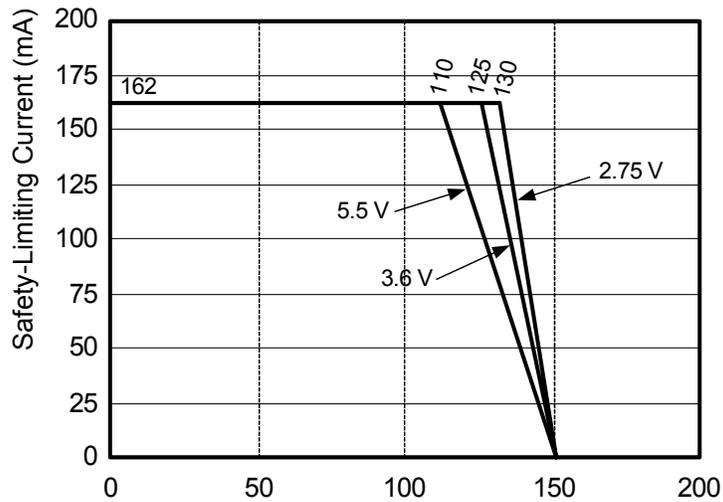

Figure 3. Thermal Derating Curve, Dependence of Safety Limiting Values with Case Temperature per DIN EN 60747-5-2
***Note:** Maximum value allowed in the event of a failure; also see the thermal derating curve in Figure 3.